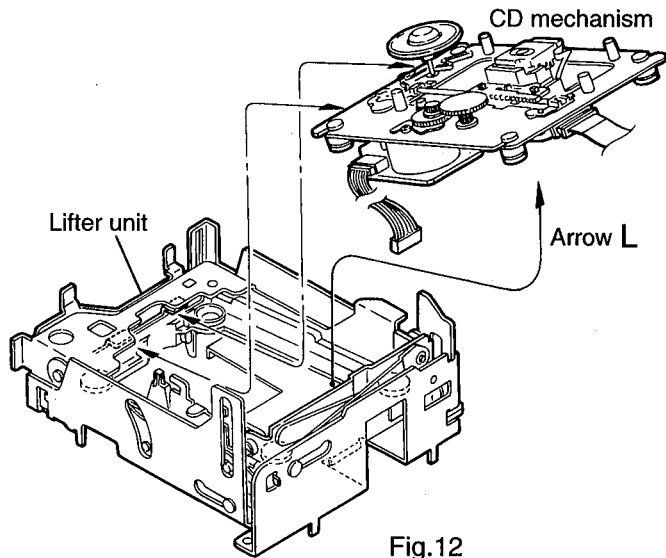

Fig.12
2. By raising the CD mechanism assembly in the arrow direction "L" , remove the assembly from the lifter unit (See Fig.12).